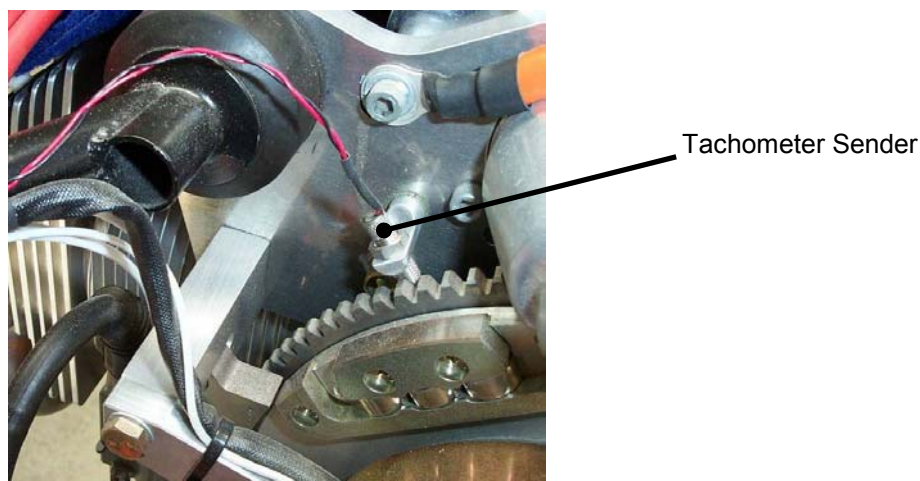

Figure 13. Tachometer Sender Installation
- The Solenoid body forms a part of the electrical circuit and MUST be earthed to function correctly as shown in Figure 13.